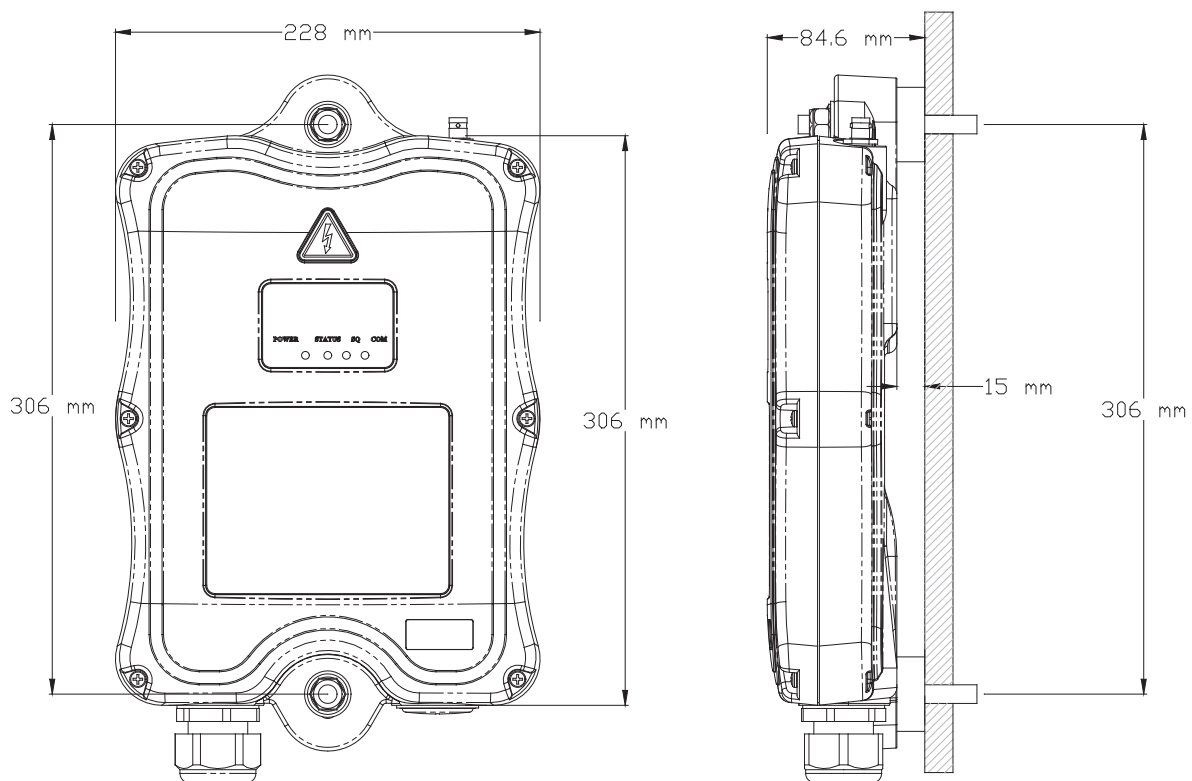

Fig. 27
6. Drill two holes (15 mm in diameter) on the control panel or location where the receiver is to be installed (*see Fig. 27*).